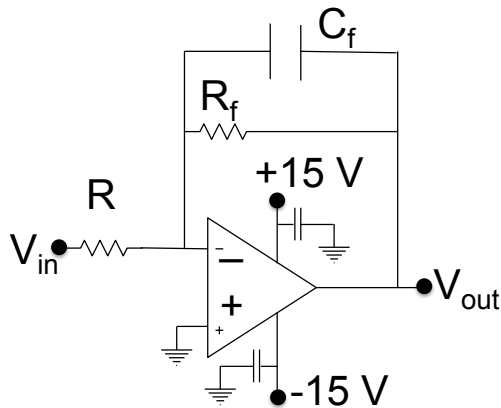

Figure 8: Inverting Amplifier
Step 1	<p>Test the amplifier (inverting configuration)</p> <ol style="list-style-type: none"> <li>We will first build the amplifier in a normal voltage amplifier configuration to test the set up and all the connections. Build the inverting amplifier circuit shown in Figure 8. Use a value for <math>R_f = R</math> and close to what you found in Lab prep problem 2, and a few pF of capacitance <math>C_f</math> across the feedback resistor to avoid spontaneous oscillations. Draw the schematic in your lab book and record the values of the components.</li> <li>Predict the low frequency gain and 3dB frequency of the circuit. HINT: Look at your lab prep solutions. This will be the <math>R_f C_f</math> time constant from (2b prelab); this circuit the time constant will be determined by the feedback resistor and capacitor (not the input resistor). Design a test to make sure the amplifier is working as predicted at low frequency. Describe your procedure, the data you acquired, and if the data fit the model.</li> </ol>